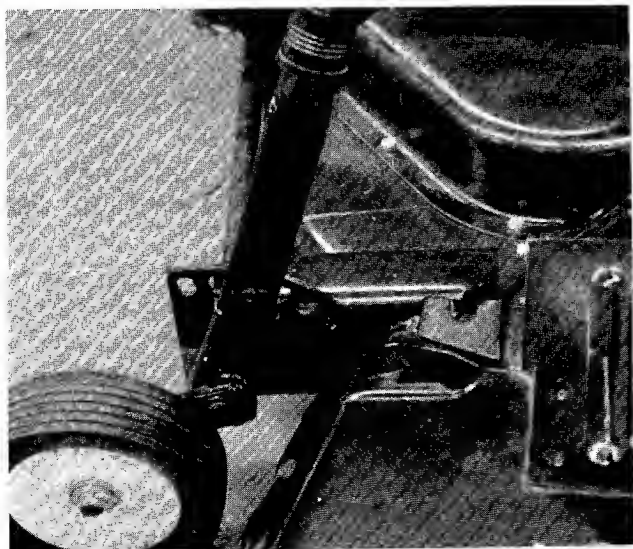

FIGURE 12. WHEEL HEIGHT ADJUSTER—
j. 42" Cut Deck. The cutting height is adjustable by moving the height adjustment lever by the right deck wheel. Both deck wheels raise and lower together. See figure 12.
- Step 7. Set the desired cutting height. See figure 12.